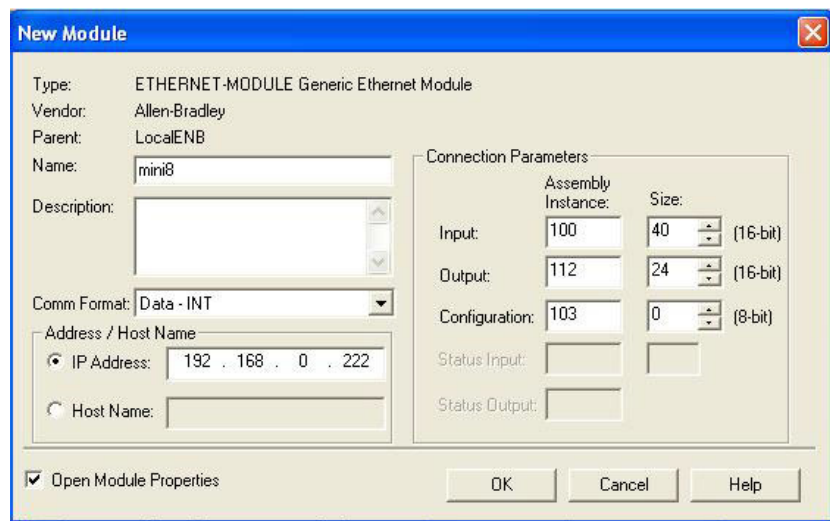

Figure 87 New Module
- In the New Module page that appears (Figure 87), enter a name for the module, and set Connection Parameter values:
6. Input and Output Size of EtherNet Module match exactly the Input and output Definitions (see Figure 87).
7. Assembly Instance values are supported by the Mini8 controller (see Figure 87).